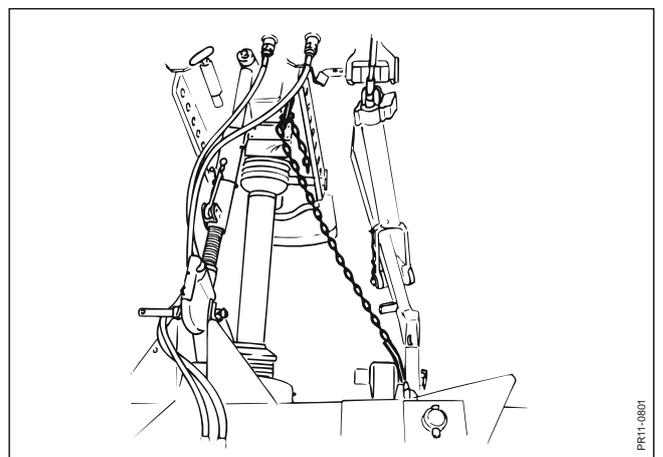

Fig. 2-18
- Fig. 2-18:** Mount the support chain so that the bottom stop = the working position of the bevel gear.